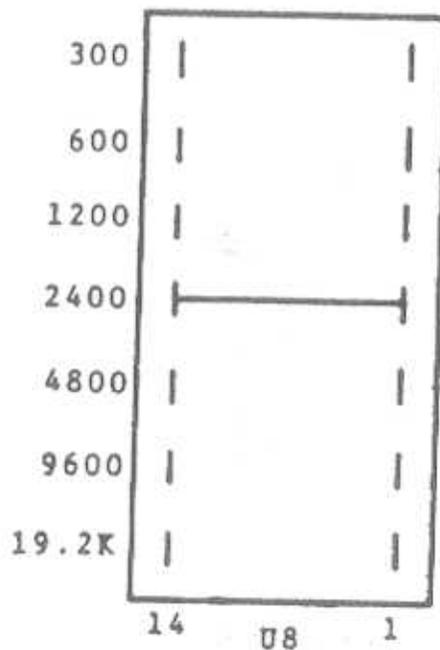

Figure 2-7. Remote I/O Baud Rate Selection
2.7.1.1 REMOTE I/O BAUD RATE SELECTION. The baud rate selection for the remote control device is accomplished by installing a jumper in the header U8 as shown in Figures 2-7 and 2-8. Labels adjacent to U8 indicate the baud rate achieved by each jumper.
2.7.1.2 REMOTE I/O DEVICE ADDRESS SELECTION. The remote control device address is selectable by switch S1 as shown in Figure 2-7. The address selected by each switch is labeled adjacent to the switch from 01 through 08.